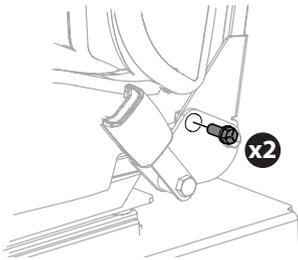

Figure 11
4. Secure with two screws (one right side, one left side) removed in Step 2 (Figure 11).